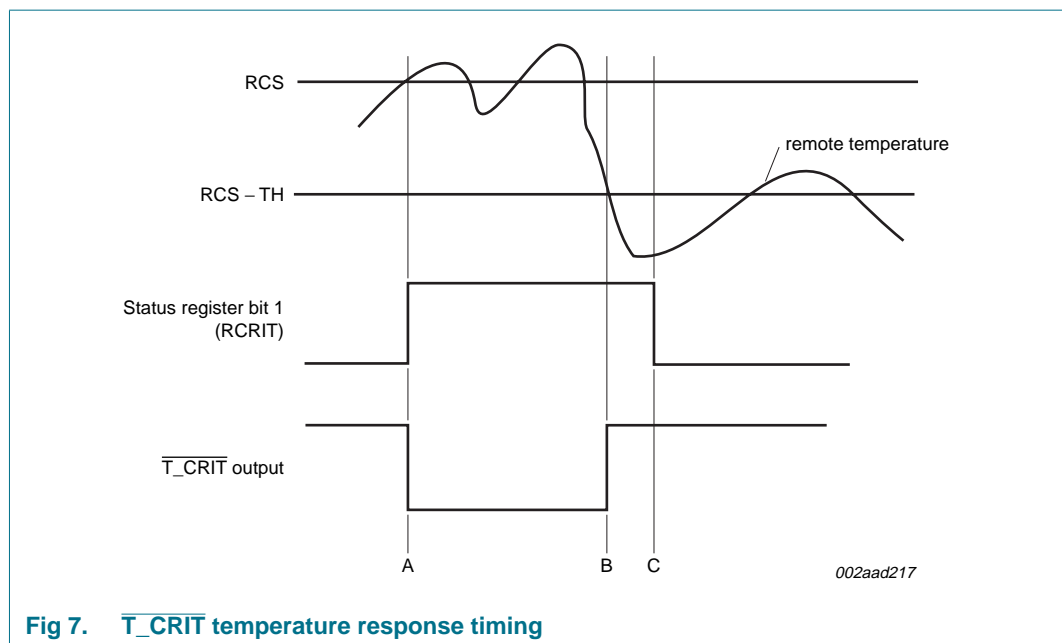

Fig 7. $\overline{\text{T_CRIT}}$ temperature response timing
After every local and remote temperature conversion the status register flags and the $\overline{\text{T_CRIT}}$ output are updated. Figure 7 is a timing diagram showing the relationship of $\overline{\text{T_CRIT}}$ output, Status bit 1 (RCRIT) and the remote critical temperature setpoint (RCS), and critical temperature hysteresis (TH) with remote temperature changes. Note that the $\overline{\text{T_CRIT}}$ output is de-activated only after the remote temperature is below the remote temperature setpoint, RCS minus the hysteresis, TH. In the interrupt mode only, the Status register flags are reset after the Status register is read.